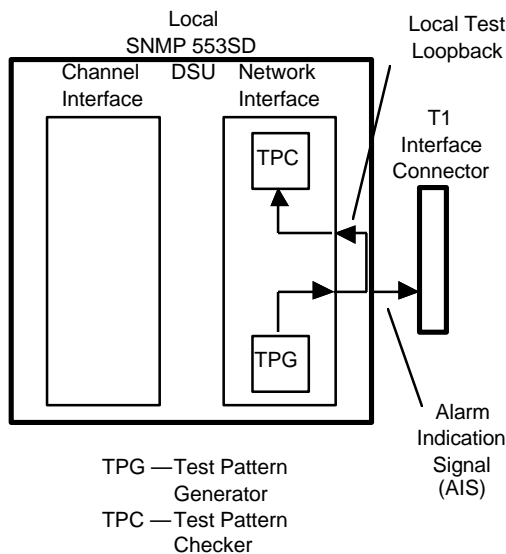

Figure 5-3 T1 Internal Self Test
The T1 Internal Self Test, illustrated in *Figure 5-3*, activates the Test Pattern Generator (TPG) and Test Pattern Checker (TPC) of the local DSU along with a Local Test (LT) loopback. It tests the Network Interface circuits of the DSU isolated from both the T1 link and the channel interface(s). The DSU transmits an Alarm Indication Signal (AIS) to the T1 link during the test.